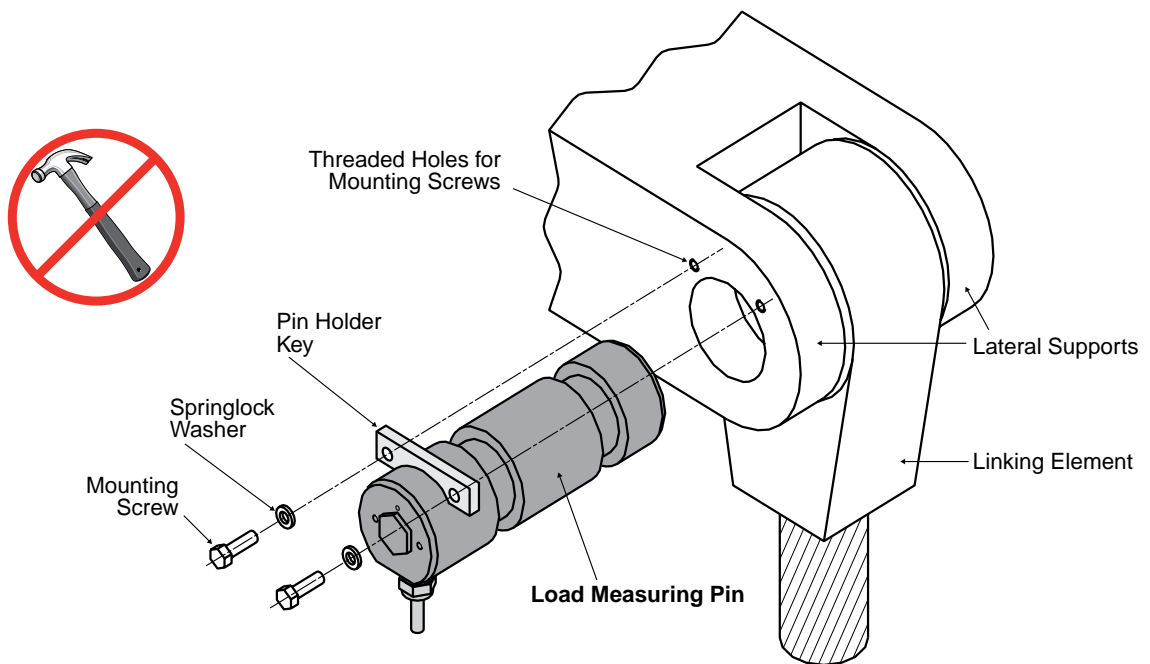

Fig.2-4 Positioning of the load measuring pin
Position the load measuring pin facing the bores in which it will be seated (see Fig.2-4). Turn it so that the mortise for receiving the pin holder key is facing upward and perpendicular to the applied force.
3. Manually slide the load measuring pin into its seat (*see Fig.2-4*), until the mortise for receiving the pin holder key reaches the lateral support. This inserting of the load measuring pin should be done without the use of any tool. If it is impossible to slide the pin in, check the alignment (concentricity and axially) of the elements and machine again, if necessary.
5. Place the two fastening screws, fitted with their washers, into the holes of the pin holder key (*see Fig.2-4*), and screw them into the previously threaded holes, applying the screwing torque specified in table (*see Fig.2-3*).